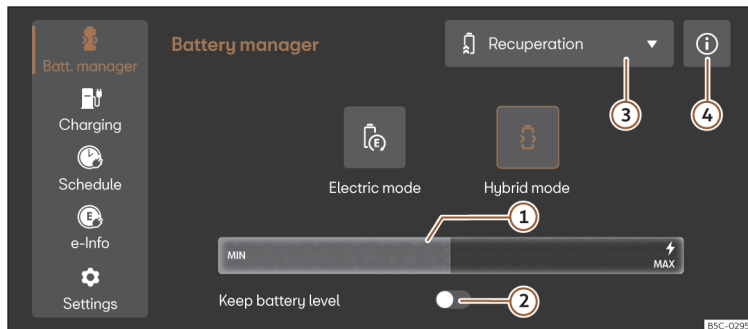

Fig. 120 In the infotainment system: Battery manager menu
- Select **Electric Mode** or **Hybrid Mode** in the infotainment system. Further information about the operating mode can be found in ① >>> **Fig. 120** ④.
Key to >>> **Fig. 120:**